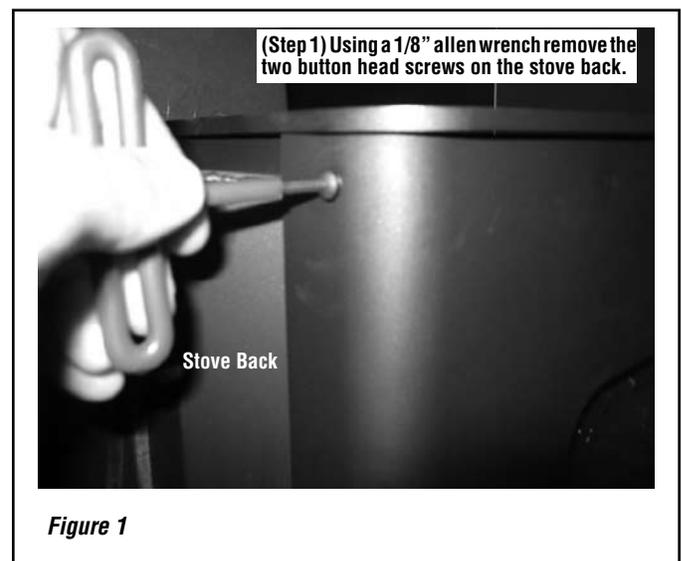

Figure 1
Step 1. Remove the four screws from the top of the stove - Using a 1/8" allen wrench remove the two button head screws on the back of the stove (see **Figure 1**) and using a 5/32" allen wrench remove the two socket head screws on the front of stove (see **Figure 2**). Lift off the top of the stove. **Retain the screws for reinstallation of the stove top in Step 6.**
Step 3. Using a 5/32" allen wrench, attach the louvers above the door with four supplied screws (two on left side and two on right side of stove). See **Figure 1 on Page 1**.